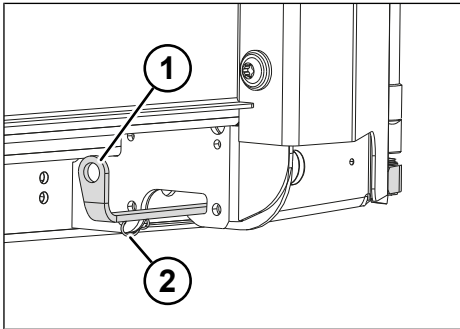

Fig. 6-25: Version 1 tension lever
- ▶ Hook on the retainer hook (see "Fig. 6-25: Tension lever", pg. 89).